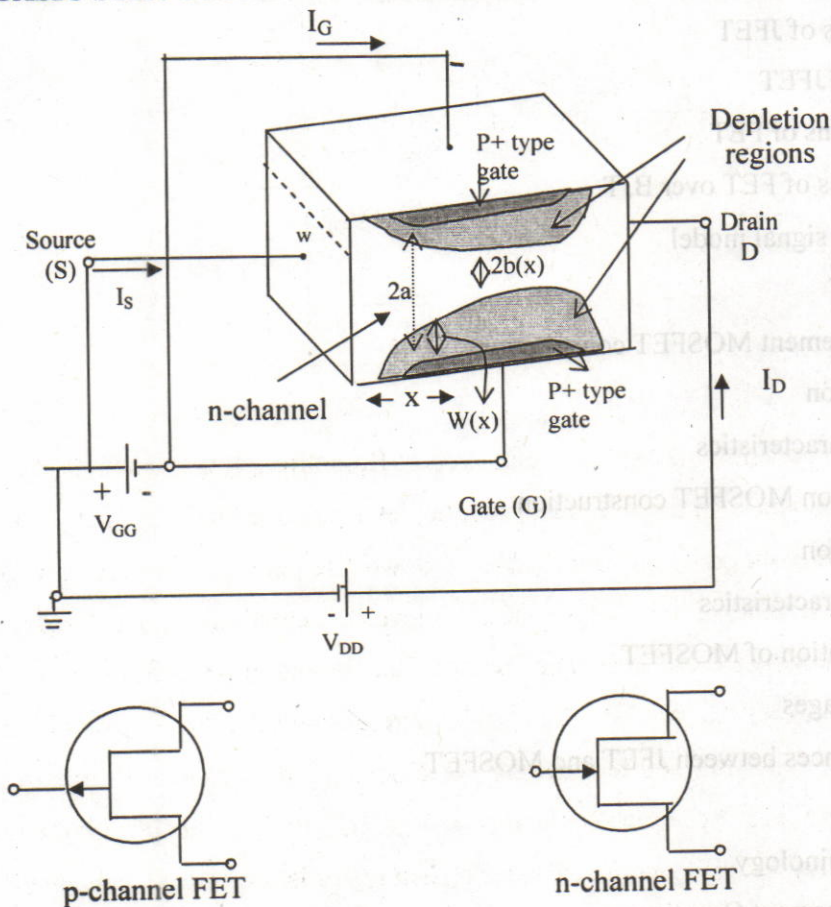

Fig.11.1
The basic structure of an n-channel J-FET is shown in Fig.11.1. Ohmic contacts are made to the two ends of an n-type semiconductor bar, and current flows along the length of the bar when a voltage is applied between the two ends. The left hand end of the bar is called the *Source(s)*, through which the majority carries (electrons) enter the channel. The right hand end of the bar is called the *Drain (D)* through which the majority carries leave the bar. On the other two sides of the n-type bar; heavily doped (p+) regions are formed by alloying or diffusion. These impurity regions are called the *Gates G*, which control the carries flow. The two gates are electrically connected internally. The region of the n-type material between the two gate regions is the *channel* through which the majority carries more from source to drain.